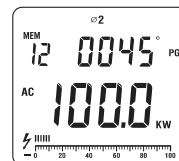

Figure 11
- After sum up the current power measurement value of the first phase, then press **SELECT** to choose the second phase $\varnothing 2$, as figure 11